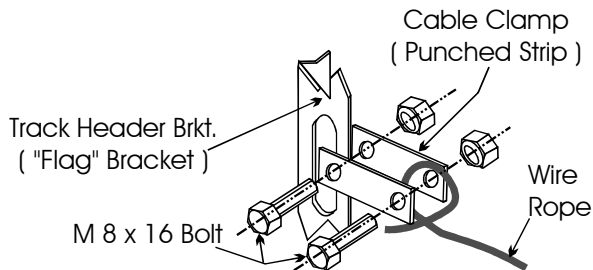

Fig. 16
- 7 Clamp the loose end of the lifting cable to the flag bracket using clamping plates as shown in Fig. 16.